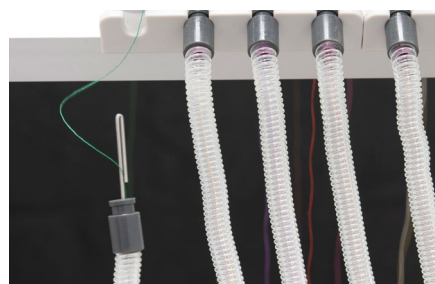

Figure 22
3. Unhook the thread tube from each side. Next, using the threading tool from your toolkit, hook the thread to the end of the tool and feed the thread through the plastic tube. Once the thread has been fed through the tube, unhook the thread. **See Figure 22.**